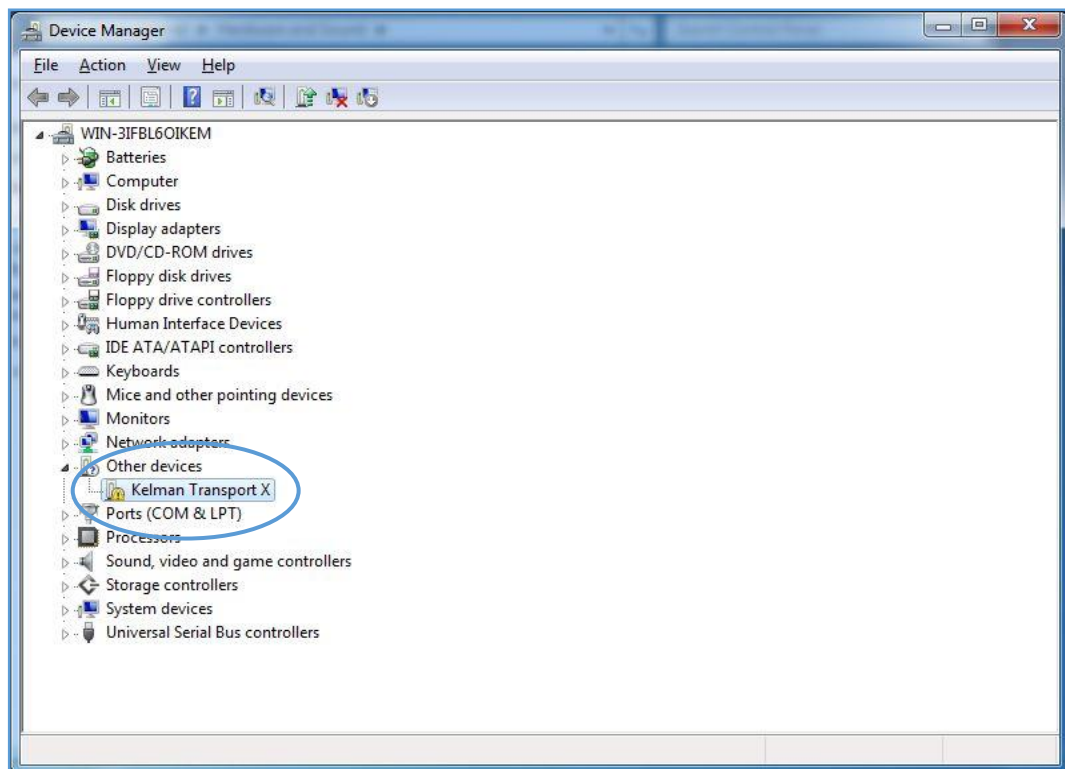

Figure A-9: Device Manager
- Expand Other devices to display Kelman Transport X as shown in Figure A-9.